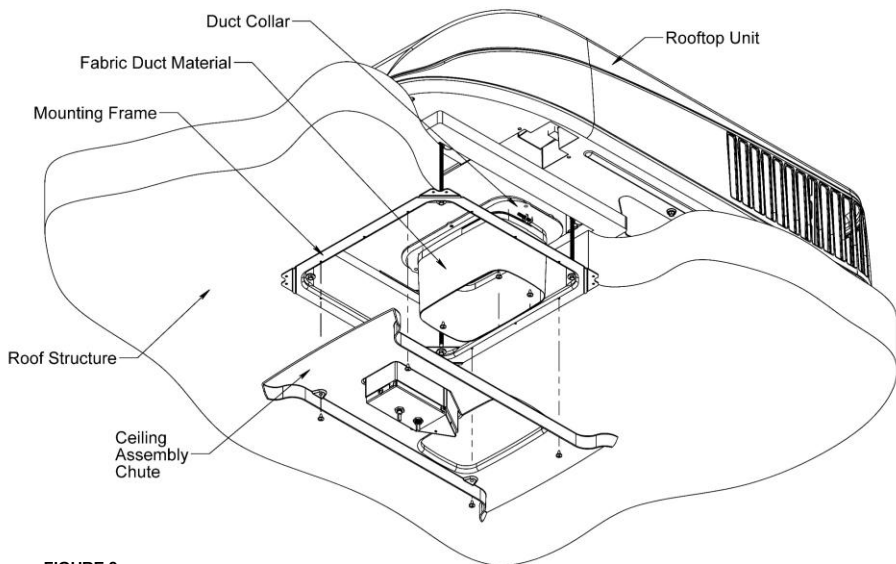

FIGURE 9
- B. Fold and break off the 3 tabs around the inner opening of the duct collar. Fasten the duct collar to the air conditioner basepan with 3 provided screws (See Figure 9).
- H. Raise the ceiling assembly chute to the unit mounting frame and secure the chute with four provided screws (See Figure 9).